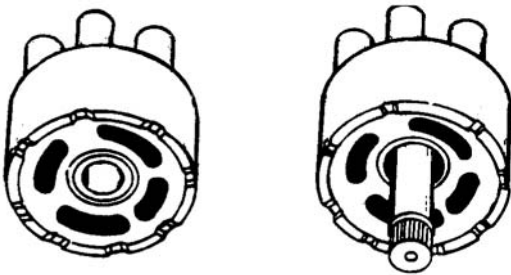

Figure 6-53. Inspecting Cylinder Block and Pistons
- a. Check cylinder blocks and pistons for scratches and wear. See Figure 6-53. When the surface of cylinder block is worn down more than .01 mm, replace cylinder block kit with new one (pump, motor).